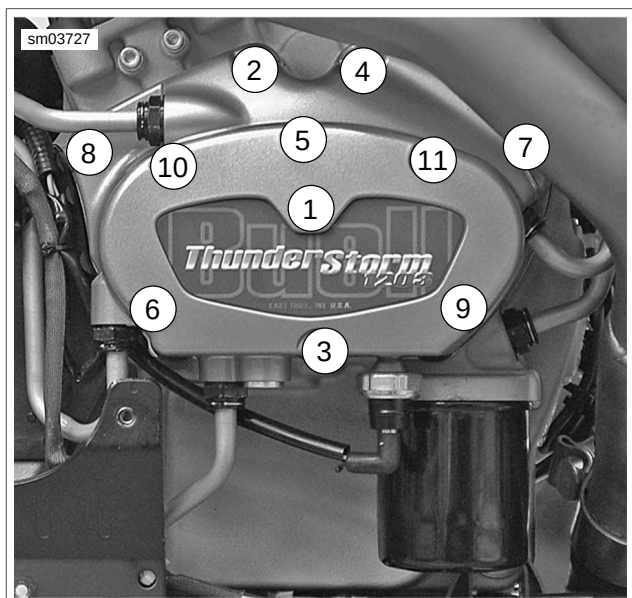

Figure 3-95. Oil Pump Body and Cover Mounting Screw Torque Sequence
6. See Figure 3-95. Install fasteners and tighten oil pump body and cover fasteners to 100-120 **in-lbs** (11.3-13.6 Nm).